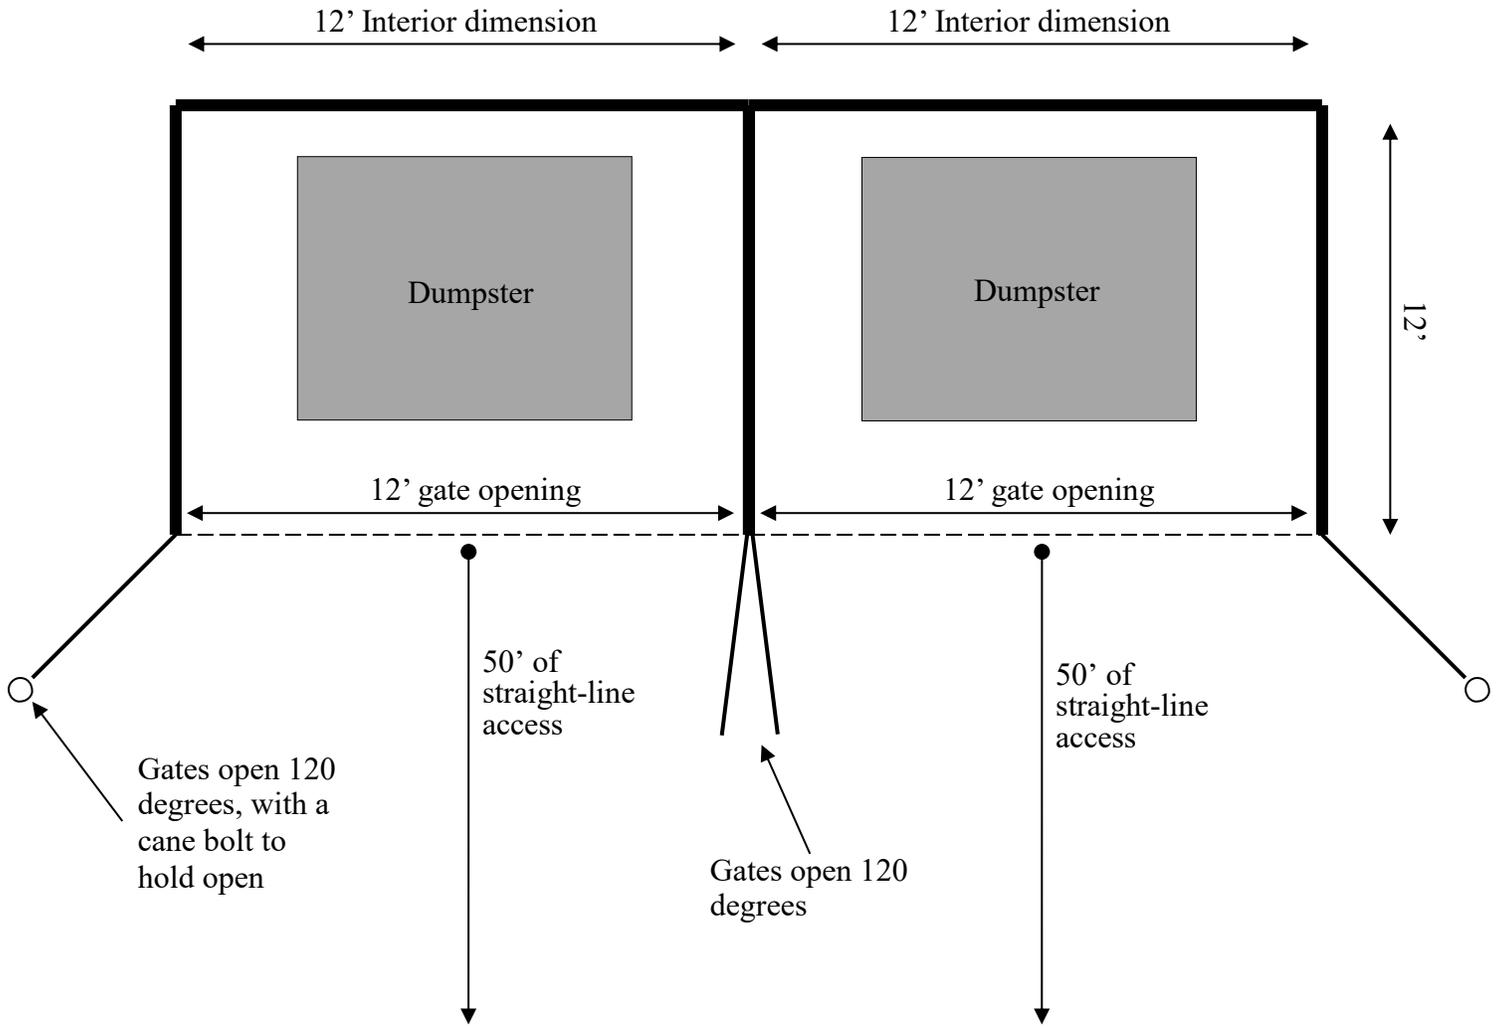

Figure 5. Dual Dumpsters in Single Enclosures
- C. Multiple-dumpster enclosures designed with a partition or center gate post separating the dumpsters are treated as two separate enclosures for the purpose of determining minimum interior dimensions. For example, if a proposed enclosure contains two dumpsters with a separate gate opening for each container, they would be treated as separate single enclosures with 12'-wide gate openings required for each (see Figure 5 at end).